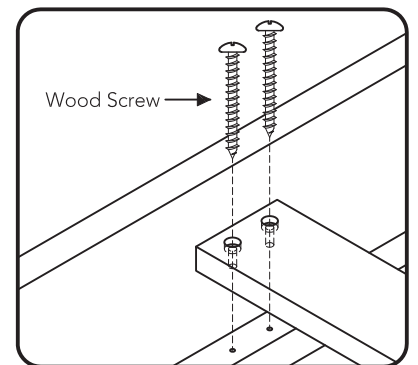

Figure 2
Attach Stretches (I) to unit with Wood Screws into pre-drilled holes. (See Figure 2)